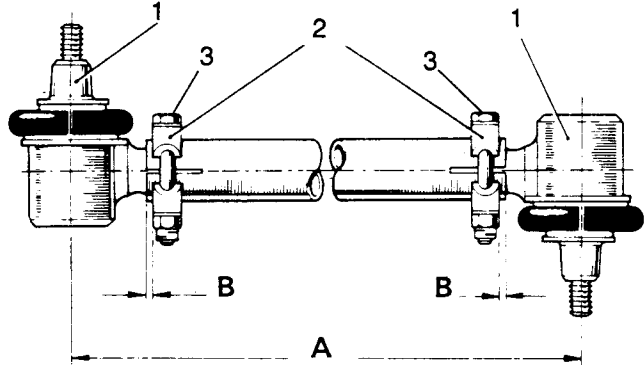

Fig L4.23
- (1) Refer to Fig L4.23. Screw in the ball joints (1) equally until the overall dimension between ball joint centres is 782,62 to 785,79 mm (dimension A).
- (2) Position the clamps (2) 1,58 to 3,17 mm from the drag link ends (dimension B) with the clamp jaws situated over the slot in the tube; the relay lever ball joint is in the pendant position when fitted. Do not tighten the clamp fixings (3) at this stage.